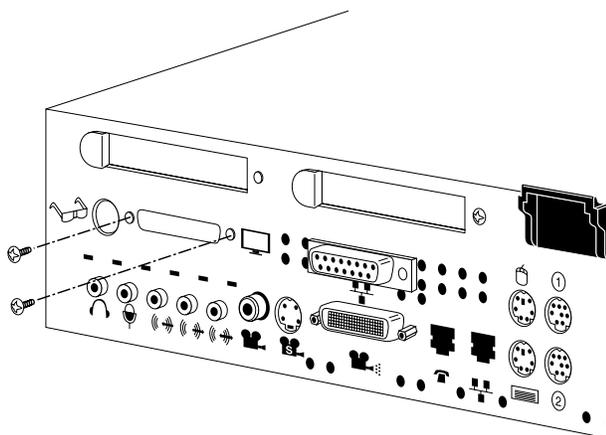

Figure 1-33 Securing the Z Board to the Rear of the Workstation
5. Insert and tighten two Phillips screws through the rear of the workstation, as shown in Figure 1-33.